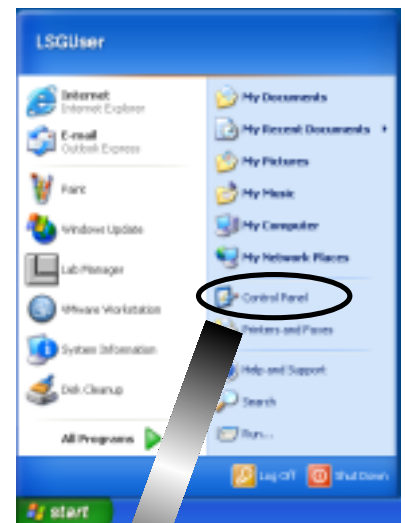

Figure 1
1. Click on the **Start** button and then click on **Control Panel** as shown in Figure 1.